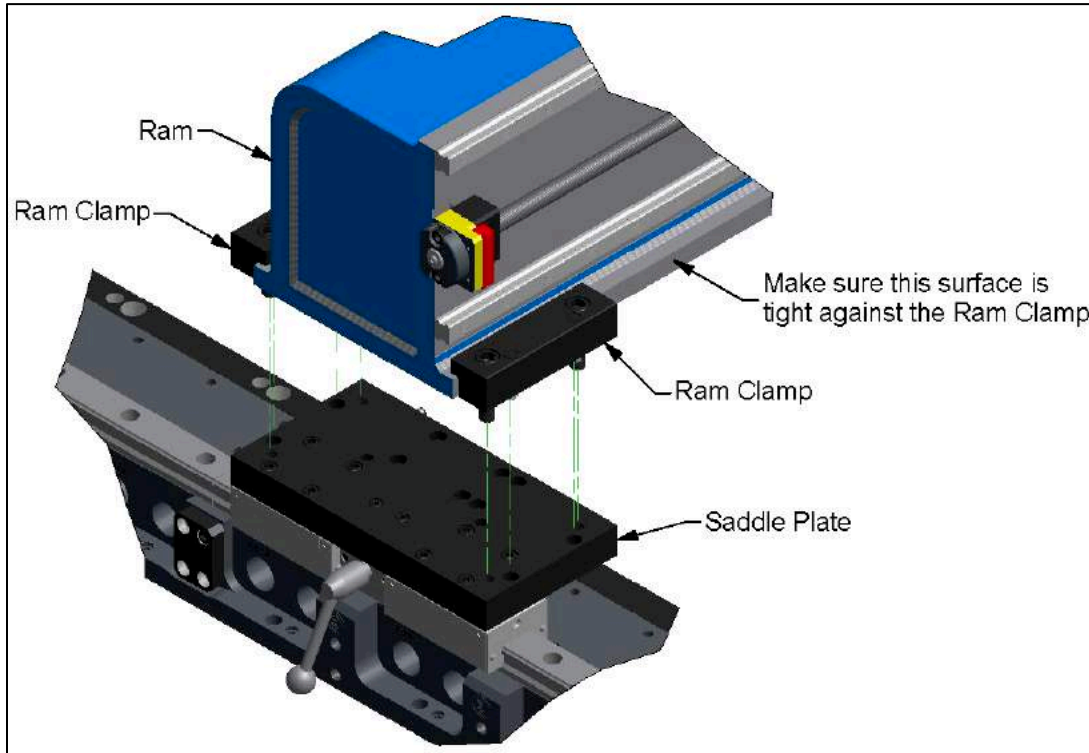

Figure 10
2. Press the front edge of the ram against the inside of the ram clamp. This aligns the ram perpendicular to the bed. Then attach the ram as shown in Figure 10.